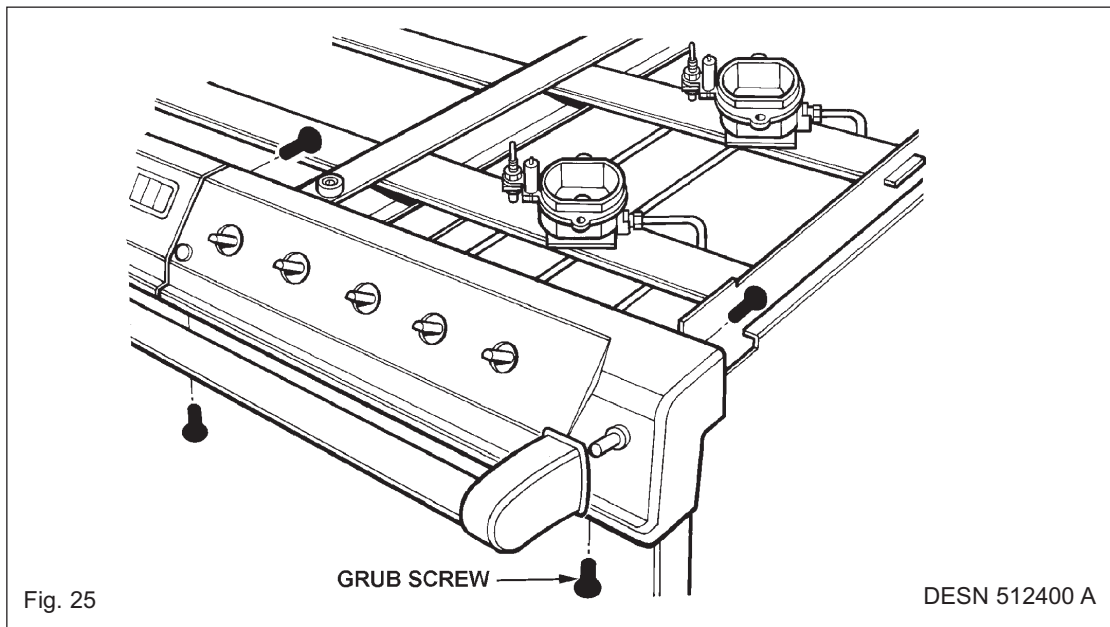

Fig. 25
4. Remove control panel fixing screws (4 per casting) (See Fig. 25). When removing the screws support the casting.
D. TO REMOVE HANDRAIL (SEE FIG. 25)
1. Loosen 2 grub screws, one at each end of hand rail (see fig. 25) using 2 1/2 mm socket key.